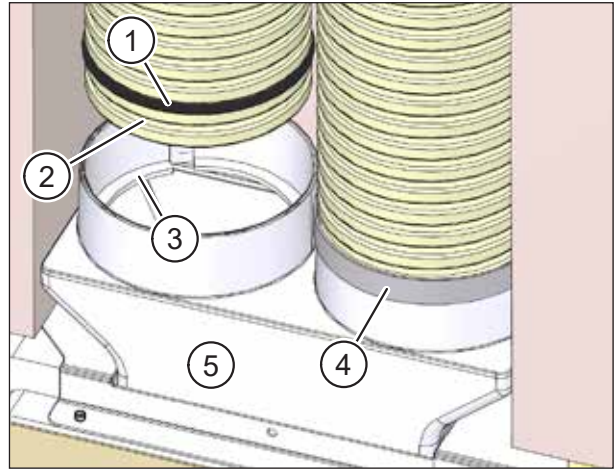

Fig. 58: Fixing a flexible pipe connection with sealing tape
- ▶ Insert the sealing rings (item 1 in Fig. 58) into the second groove on the flexible pipe. These are available as accessories M-WRG-FR-DR75 (part no. 5056-41/75) or M-WRG-FR-DR63 (part no. 5056-41/63) for the corresponding diameters.
- ▶ Insert the flexible pipes into the openings in the flexible pipe connection. Make sure that the first groove on the flexible pipe (item 2 in Fig. 58) engages with the locking ring (item 3 in Fig. 58) on the flexible pipe connection.
- ▶ Recommendation: Seal the join with a layer of sealing tape 30 mm wide (item 4 in Fig. 58).
- ▶ Insert the flexible pipe connection (item 5 in Fig. 58) into the opening in the wall box.